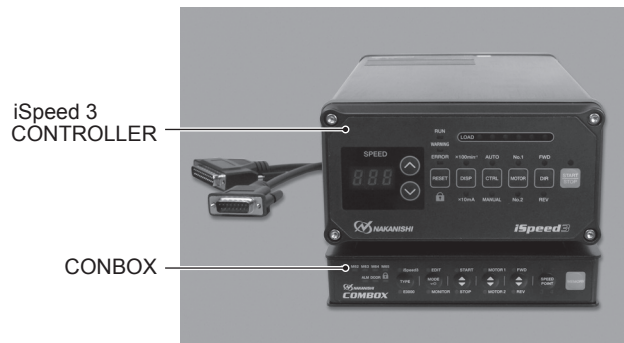

Fig. 6
(1) Stacked CONTROLLER and COMBOX (Fig. 6).